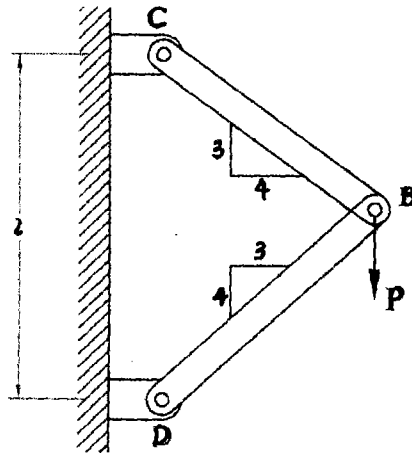

Figure 6/Gambarajah 6
6. A load P is supported at B by two uniform rods of the same material and of the same uniform cross section of area A as shown in **Figure 6**. Determine the strain energy and the vertical deflection of point B of the system. Parameters P , A , E and l are known.